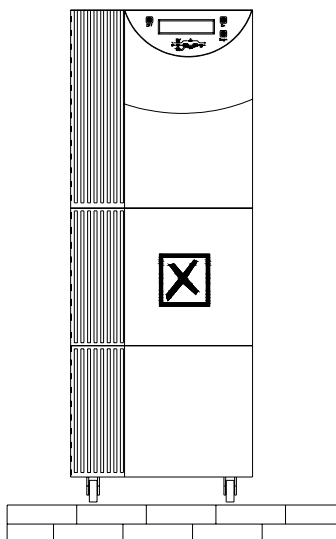

Figure10
6. Do not install UPS in the place where contains caustic gas. (Figure 10)